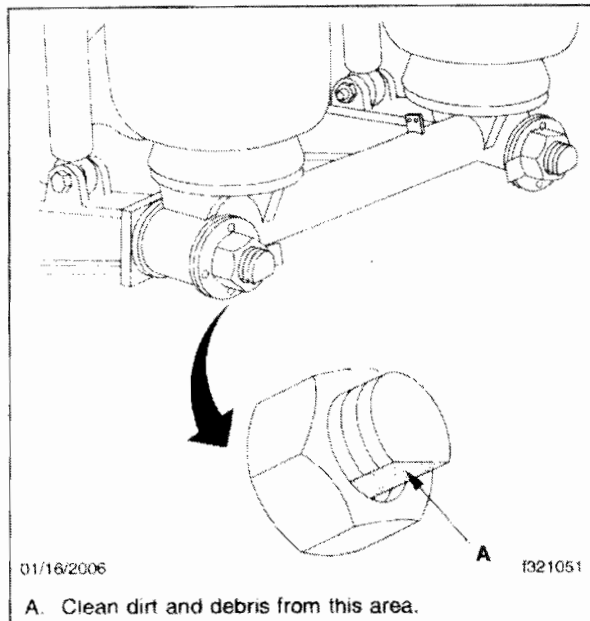

Fig. 2, Pin Shaft (detail)
7. Clean the transverse beam fasteners and the equalizer beam pin shafts prior to disassembly to help protect the threads. **Give special attention to the space between the lower flat surface of the pin shaft and the heavy hexnut threads.** A piece of wire can be used to help loosen trapped dirt and debris. See **Fig. 2**.